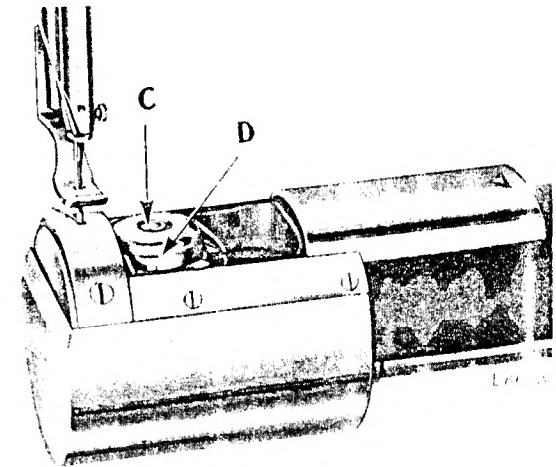
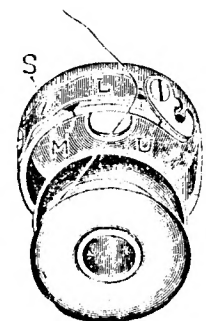
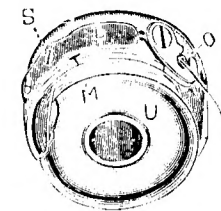

Fig. 3. Bobbin Case Cap in Position in Machine
Fig. 5
Fig. 6
Place the thumb nail in the groove (D, Fig. 3) in the side of the bobbin case cap, lift the cap and remove the bobbin.
With the left hand hold the bobbin case cap and place the bobbin into it, as shown in Fig. 5.
Draw the thread under the bobbin case tension spring (L, Fig. 5) and into the slot (M, Fig. 5), back under the tension spring (L), into the slot (L, Fig. 5) and out under the thread guide (O) as shown in Fig. 6. After threading the bobbin case cap, place it on the bobbin case base and push down the latch (C, Fig. 3).
The tension on the bobbin thread is regulated by means of the screw (S, Fig. 5) nearest the centre of the bobbin case cap tension spring. To increase the tension, turn this screw over to the right. To decrease the tension turn the screw over to the left.